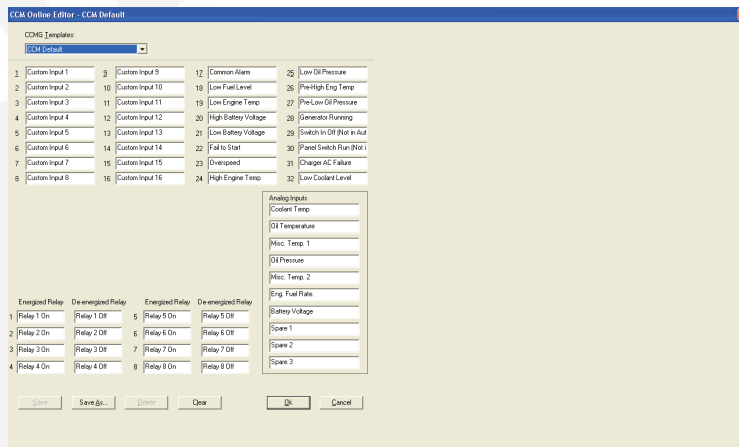

FIGURE 2-44. DEFAULT CCM-G TEMPLATE
- To accept the default template (see Figure 2-44), select **CCM Default** from the drop-down list under “CCMG (or CCMT) Template:”